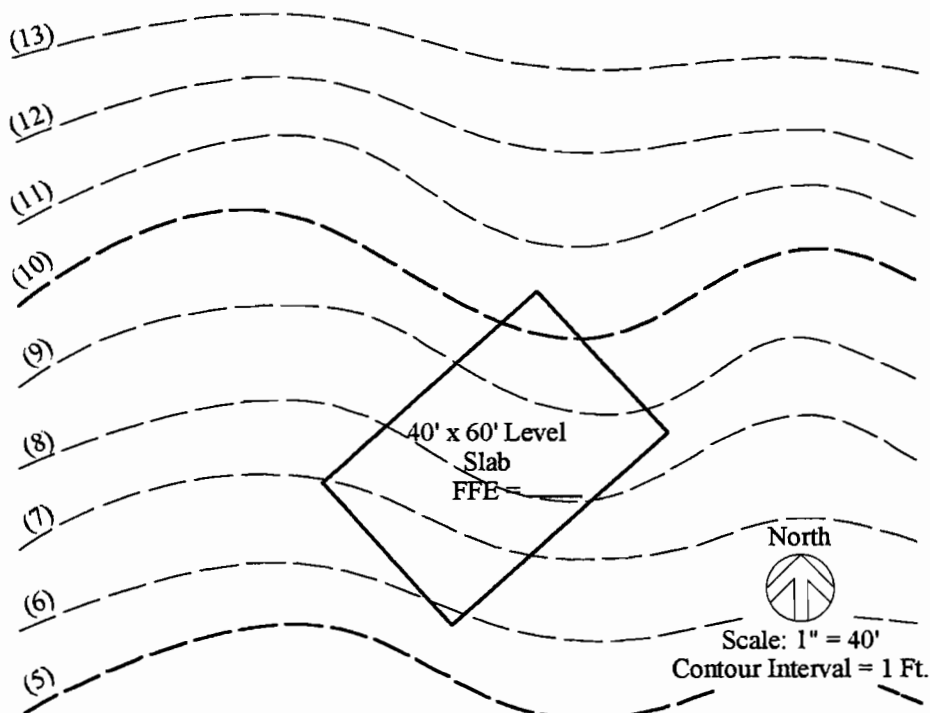

Figure 4-27. Horseshoe Swale for Level Plane Surface
The process for designing a horseshoe swale for a *level* plane surface is described in this section. The example shown in Figure 4-27 will be used to demonstrate the process of designing a horseshoe swale to protect a level plane surface.
Design Criteria for the Level Plane Surface shown in Figure 4-27:
Step 1. Set the finish floor elevation and exterior corner point elevations. A rule-of-thumb technique for setting the finish floor elevation that works in the majority of cases is to simply add 6 inches to the existing whole number contour line that comes closest to passing through the mid-point of the plane surface. In this example, that is contour 8 as shown in Figure 4-27.